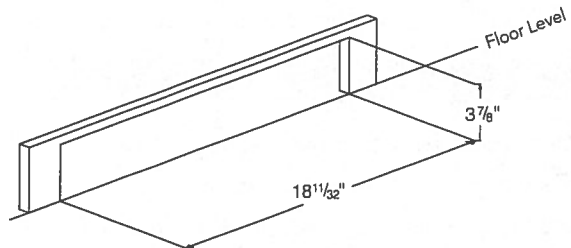

Fig 2.
- Cut a hole in the kick board according to the dimensions given in Fig 2.